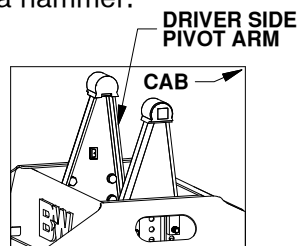
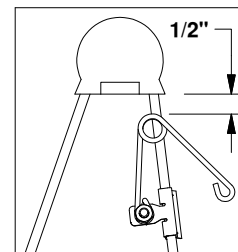

Figure C2:
Figure C3: Driver
2. **Attach kit.** Locate the flange which will be closest to the truck cab on the driver side pivot arm, see Figure C2. The clip should be placed so that when the spring's coil is in the line with the edge of the arm there will be 1/2" of clearance between the bottom of the polyurethane bushing and the top of the spring, see Figure C3. Drive the clip securely onto the flange with a hammer.